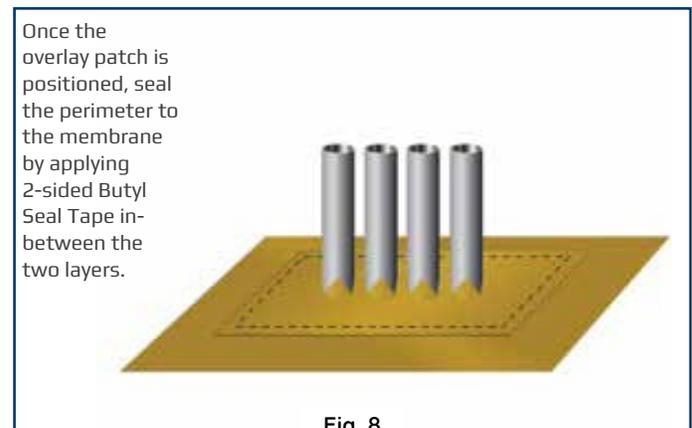

Fig. 8
- D. Once patch is positioned, seal the perimeter to the membrane by applying 2-sided Butyl Seal Tape in-between the two layers. (Fig. 8)